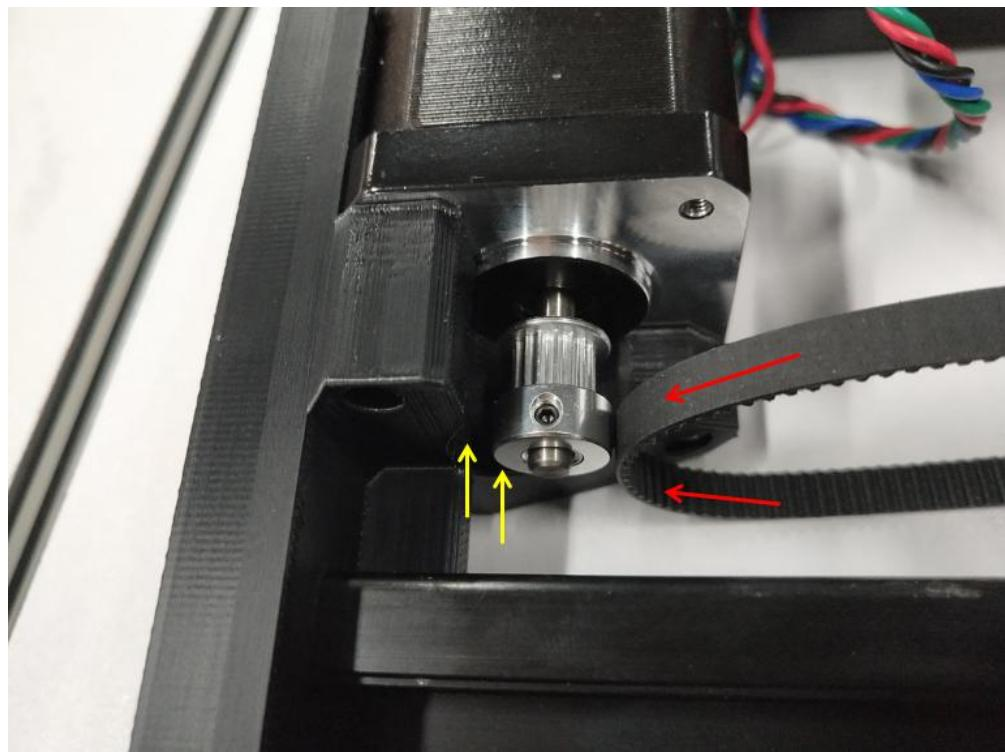

Figure 1.11.6
**Step 1-11-5:** As shown in Figure 1.11.6, put the Y-axis belt into the synchronous wheel on the Y-axis motor.